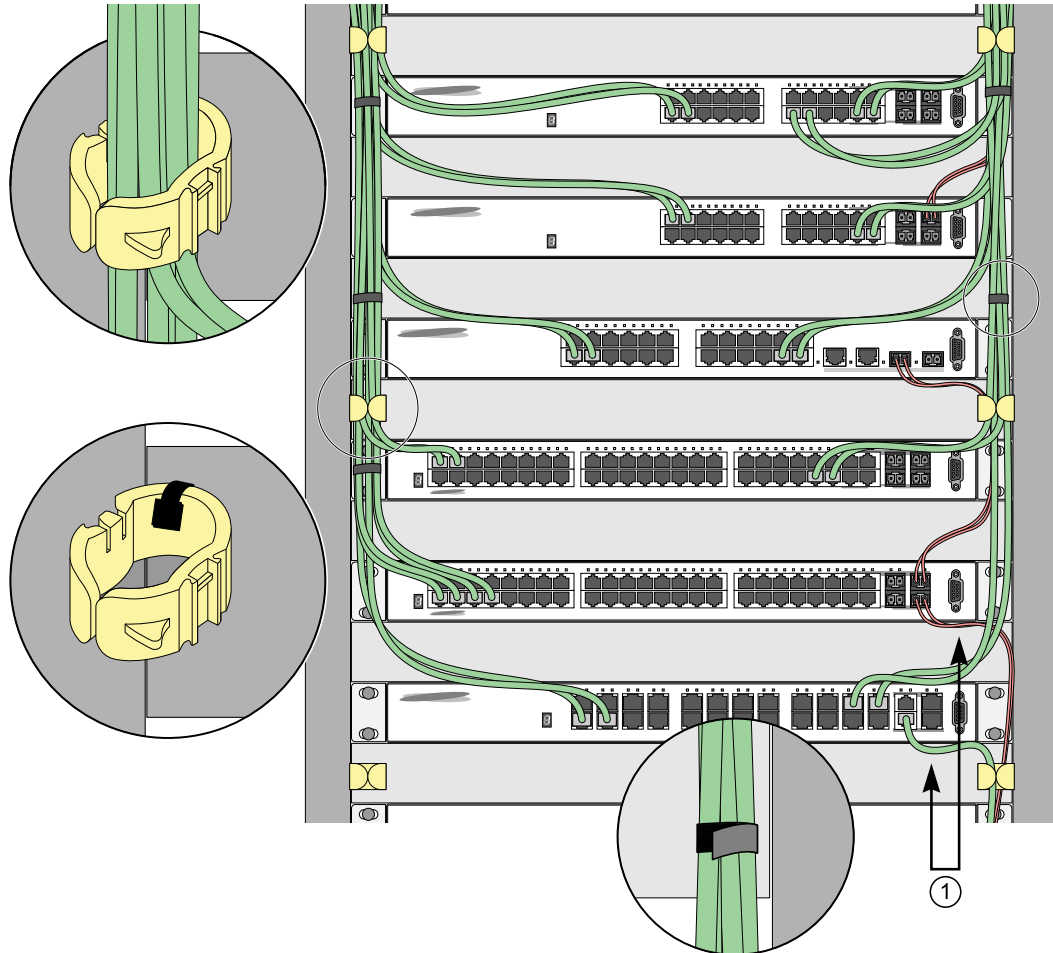

Figure 14: Properly Installed and Bundled Cable
- Provide enough slack, approximately 5 to 7.5 cm (2 to 3 in), to provide proper strain relief as shown in Figure 14 on page 39.
- When installing a patch panel using twisted pair wiring, untwist no more than 2.5 cm (1 in) of the cable to avoid radio frequency (RF) interference.